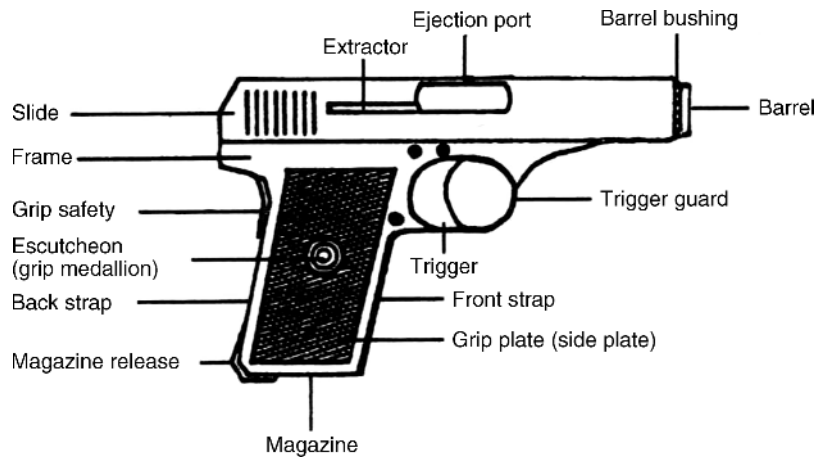

Figure 1.0.11 Major parts of a typical self-loading pistol.
1.0.9 The self-loading pistol (Figure 1.0.11)